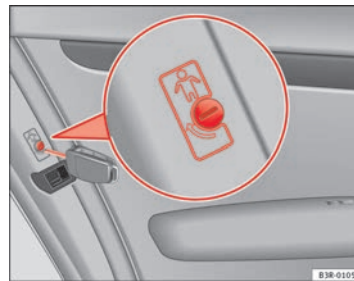

Fig. 77 Childproof lock on the rear doors
- Turn the key in the direction of the arrow ⇒ page 104, fig. 77.